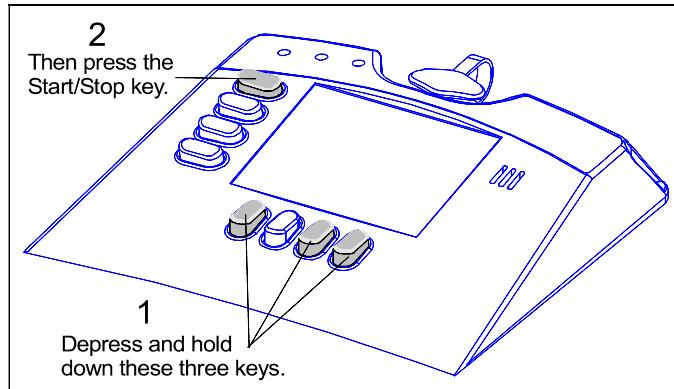

Figure 18 Configuring Explorer to Receive Firmware
11. To configure Explorer to receive new firmware, switch Explorer on, while pressing the leftmost, and two rightmost soft keys, as shown in Figure 18. The display will be very dim, and the Ready LED will be on.